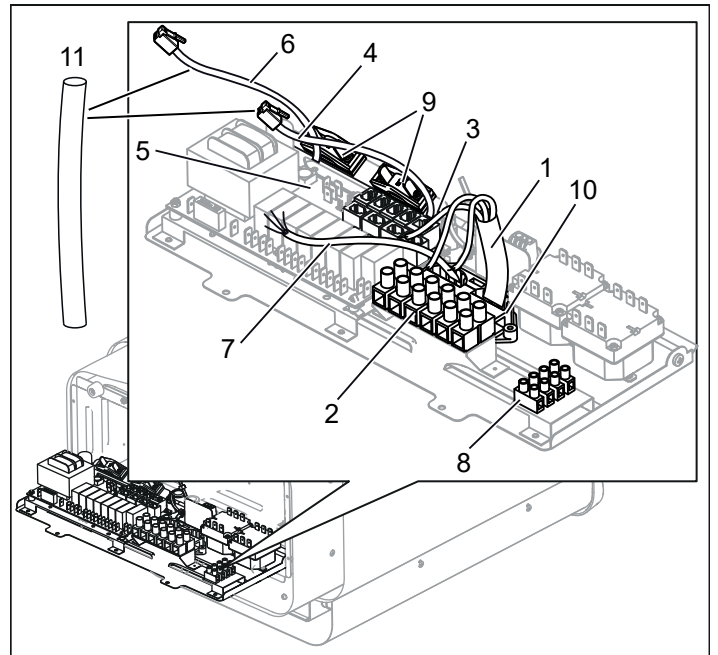
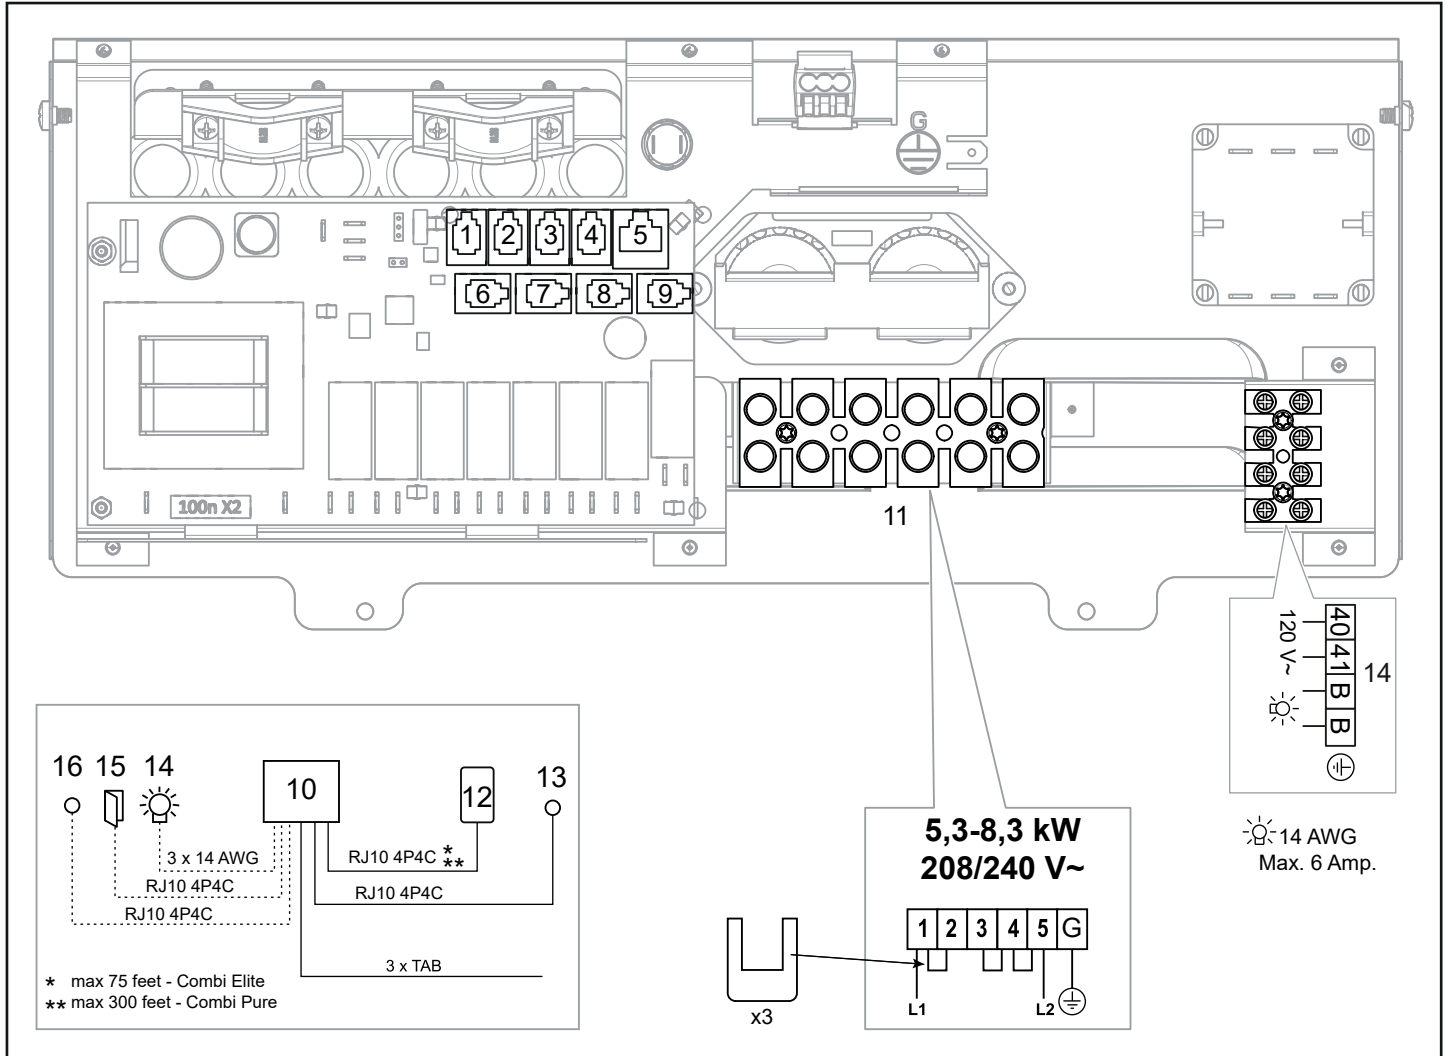

Figure 11: Circuit board
Figure 19: Wiring diagram
4. Connect the main supply electrical cable (1) to the terminal (2) (see Figure 11) according to the wiring diagram (see the Connection/wiring diagram section, page 9).
5. Run the cables for the control panel and the temperature sensor through the cable grommets (3). Connect the control panel cable (4) to one of the four RS485 contacts (positions 6-9) (see Figure 11) according to the wiring diagram (see the Connection/wiring diagram section, page 9 fig.19).
6. Connect the humidity- and temperature sensors cable (6) to one of the four RS485 contacts (positions 6-9) (5) according to the wiring diagram (see the Connection/wiring diagram section, page 9 fig. 19).
7. Connect the light cable (if relevant) (7), see Figure 11, to the terminal (8) according to the wiring diagram Figure 19.
Contact Tylö Customer Service before connecting to voltages or numbers of phases that are not listed in the wiring diagram Figure 19.
- 1. Modular plug (RJ10, see Fig 19)